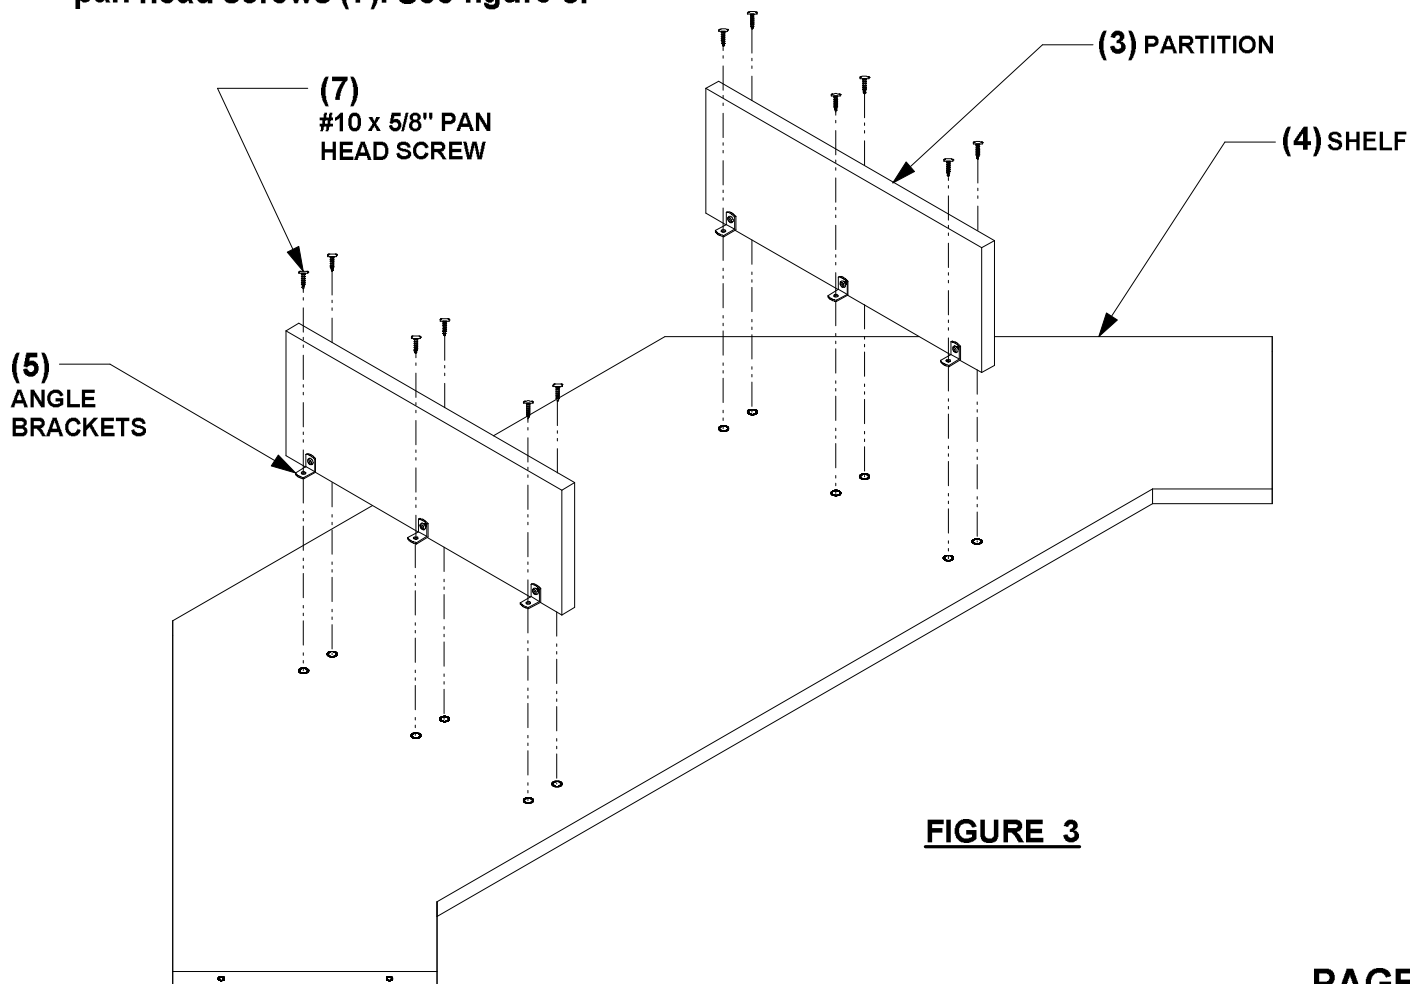

FIGURE 3
3. Attach partitions (3) with pre-mounted angle brackets (5) to shelf using #10 x 5/8" pan head screws (7). See figure 3.